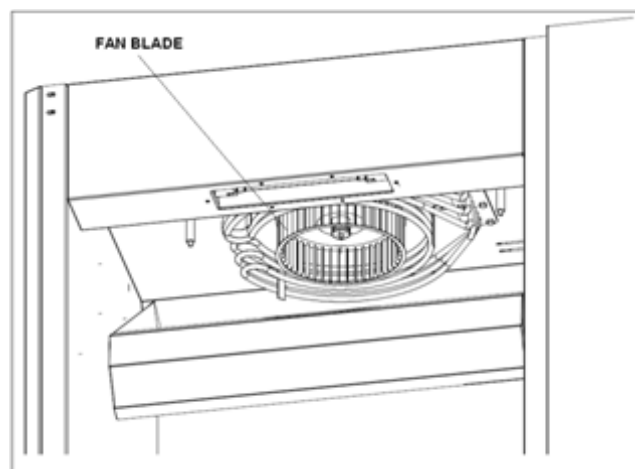

Figure 19
- Clean the fan blade with a cloth and grill cleaning agent (see Figure 19).